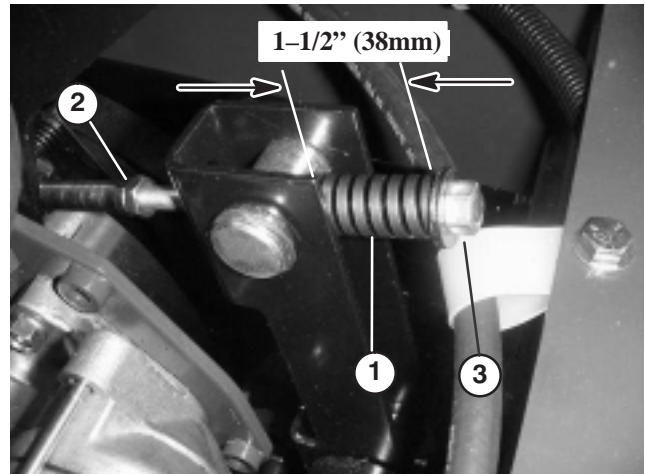

Figure 43
2. Loosen the tensioning rod jam nut (Fig. 43).
3. Use a 1/2" wrench to tighten or loosen the belt tensioning spring (Fig. 43). Adjust spring to a length of 1-1/2" (38 mm).
3. Using a 1/2" wrench, loosen the belt tensioning spring (Fig. 43) all the way.
5. Install the new PTO belt and re-tension the pulley spring to 1-1/2" (38 mm) (Fig. 43).
6. Tighten the jam nut (Fig. 43) and close the hood.